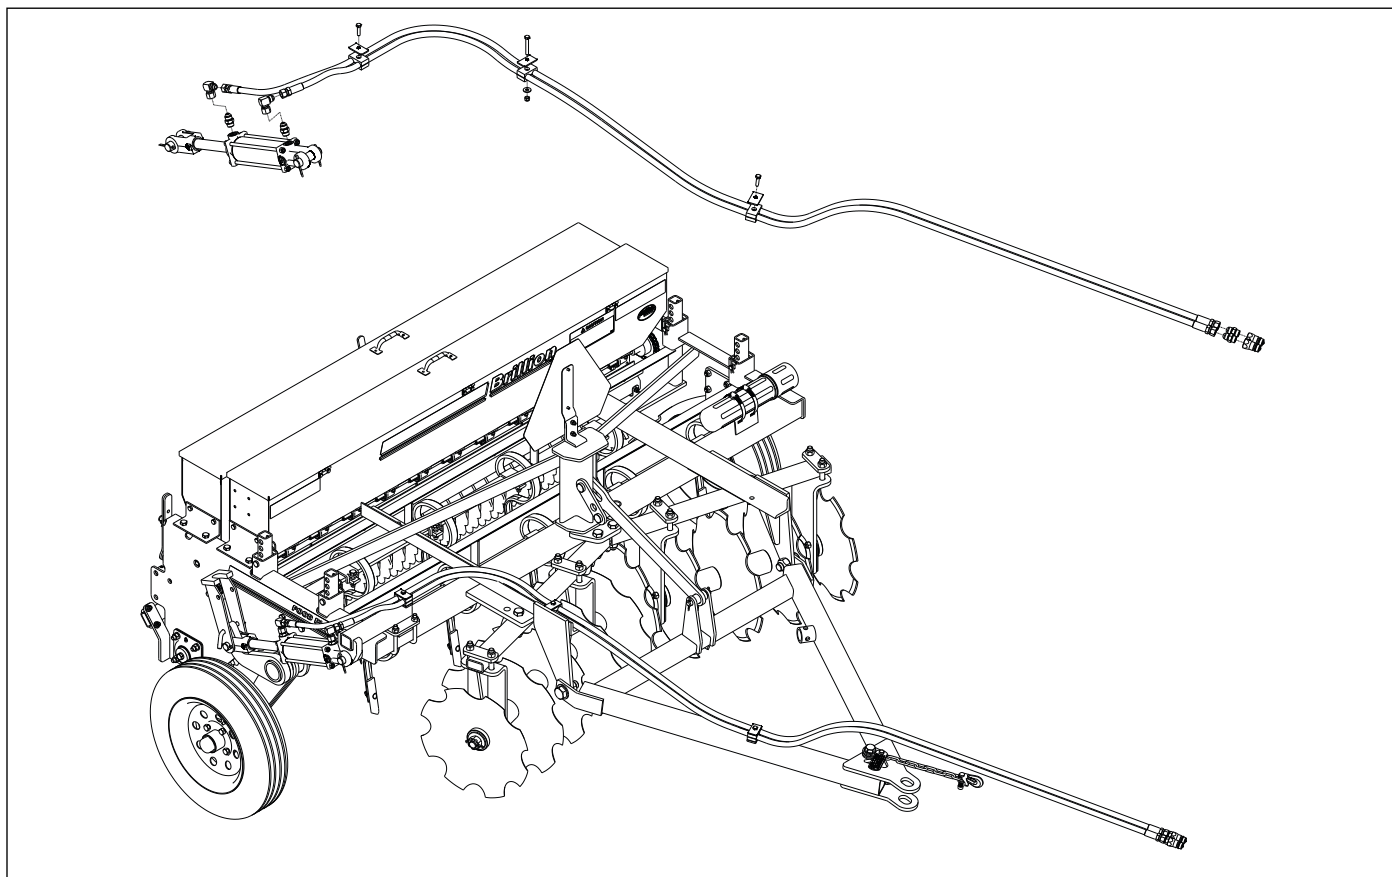

Figure 3-4: Hydraulic Hose Installation
3. Turn O-Ring end of each Adapter Fitting into each Coupler. Insert JIC end of Adapter into the end of each hose. See Figure 3-4. Tightening Procedure For JIC 37° Swivel Female Nuts